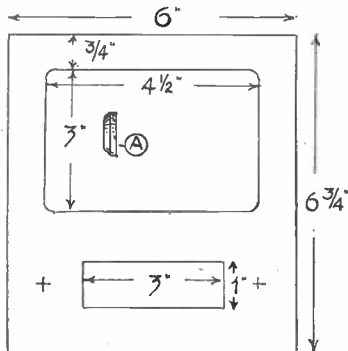

Fig. 1
The box is constructed from $\frac{1}{2}$ in. fretwood, except where otherwise stated. First cut the front and back parts to the dimensions given in Fig. 1. The front has a panel opening sawn out. Below this panel the space for the grid is drawn in midway between panel and bottom. This grid is clearly defined by cutting a V-shaped groove all round with a broad sharp chisel, while in the space a few parallel lines are cut for the grid itself. These should not be deep. On either side of the grid the control knobs are fixed. These are $\frac{1}{2}$ in. discs of the wood, with their rear edges bevelled, as in inset (A). Fix in place with a spot of glue and a small nail or screw from the back. The edges of the panel opening are also bevelled and rounded off.